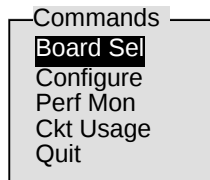

Figure 3-3
1. Use the **Up and Down Arrow** keys to highlight the **Board Sel Field** in the **Commands Menu** at the upper left of the screen. (See **Figure 3-3**)